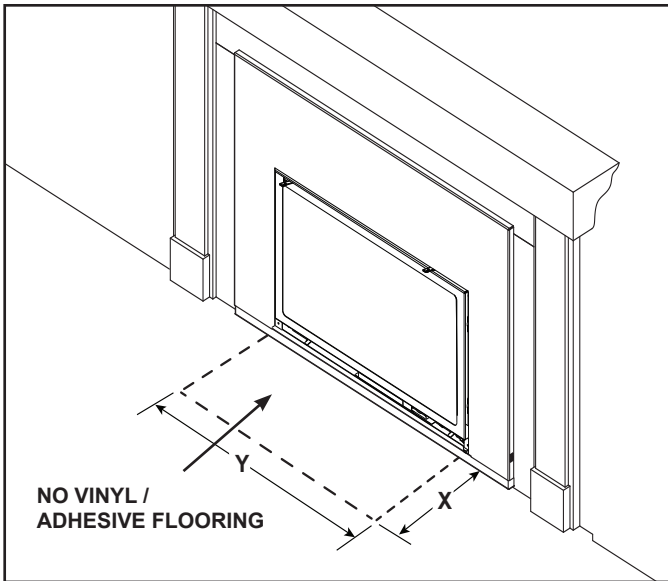

Figure 3.17 Hearth - Combustible Material Exception
- Combustible flooring may be located in front of the appliance. Exception - no vinyl / adhesive flooring. See Figure 3.17.
- 1/2 inch gap under the bottom of the front must be maintained. See Figure 3.17.